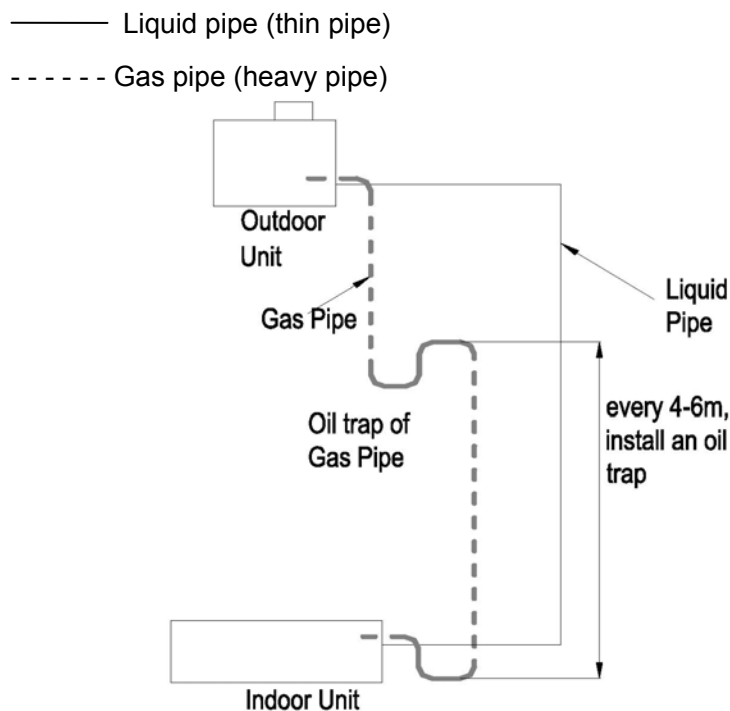

Figure 3-2-1
- ◆ When of the difference in height between indoor and outdoor units are different, please refer to Figure 3-2-1 for layout of pipeline.